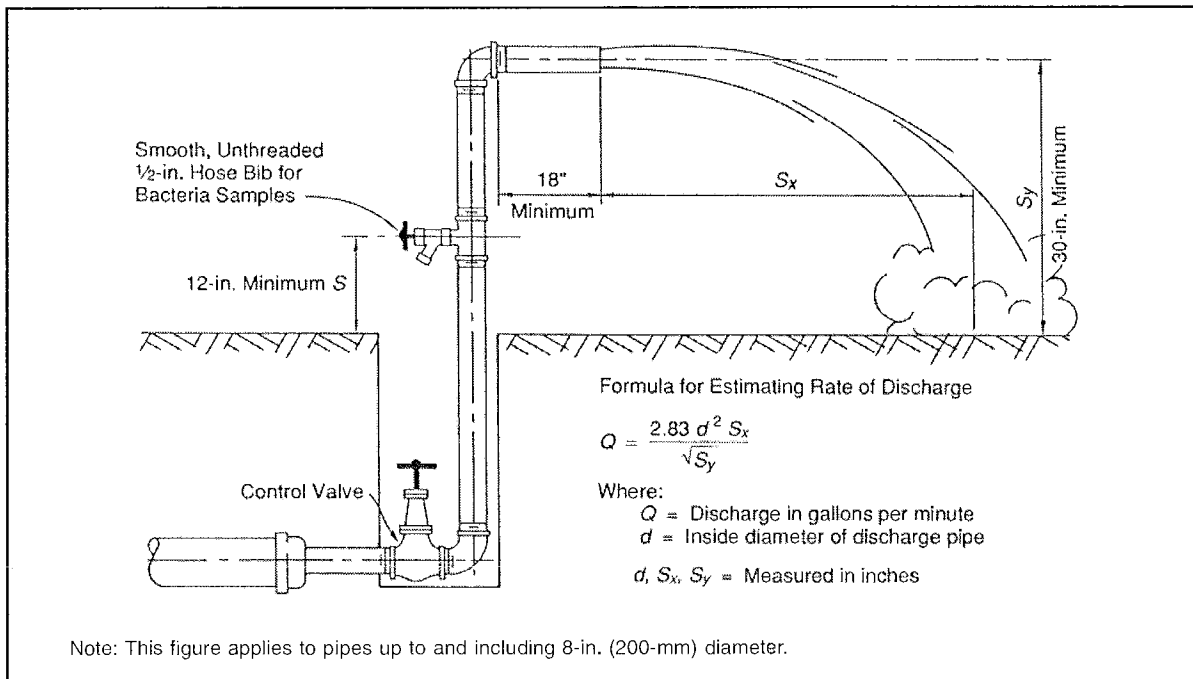

Figure 2 Suggested combination blowoff and sampling tap
1. Water supplied from a temporary, backflow-protected connection to the existing distribution system or other approved supply source shall flow at a constant, measured rate into the newly installed water main. In the absence of a meter, the rate may be approximated using a Pitot gauge in the discharge, measuring the time to fill a container of known volume, or measuring the trajectory of the discharge and using the formula shown in Figure 2. The main should undergo hydrostatic testing prior to disinfection.
5.1.3 *Sampling procedure.* Samples for bacteriological analysis shall be collected in sterile bottles treated with sodium thiosulfate, as required by *Standard Methods for the Examination of Water and Wastewater*. No hose or fire hydrant shall be used in the collection of samples. (NOTE: For pipe repairs, if no other sampling port is available, well-flushed fire hydrants may be used with the understanding that they do not represent optimum sampling conditions.) A suggested combination blowoff and sampling tap used for mains up to and including 8-in. (200-mm) diameter is shown in Figure 2. There should be no water in the trench up to the connection for sampling. The sampling pipe must be dedicated and clean and disinfected and flushed prior to sampling. A corporation cock may be installed in the main with a copper-tube gooseneck assembly. After samples have been collected, the gooseneck assembly may be removed and retained for future use.